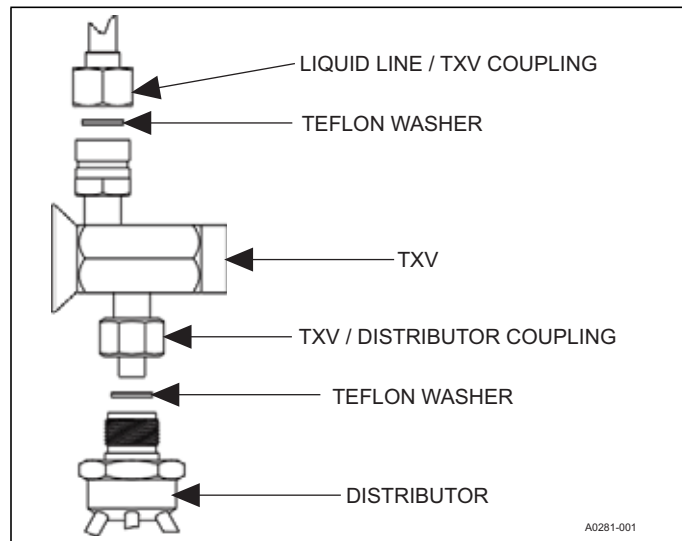

FIGURE 6: TXV Installation
4. Install the thermal expansion valve to the distributor assembly with supplied fittings. Ensure Teflon washer is seated in distributor. Hand tighten and turn an additional 1/4 turn to seal. Do not overtighten fittings. See Figure 6.